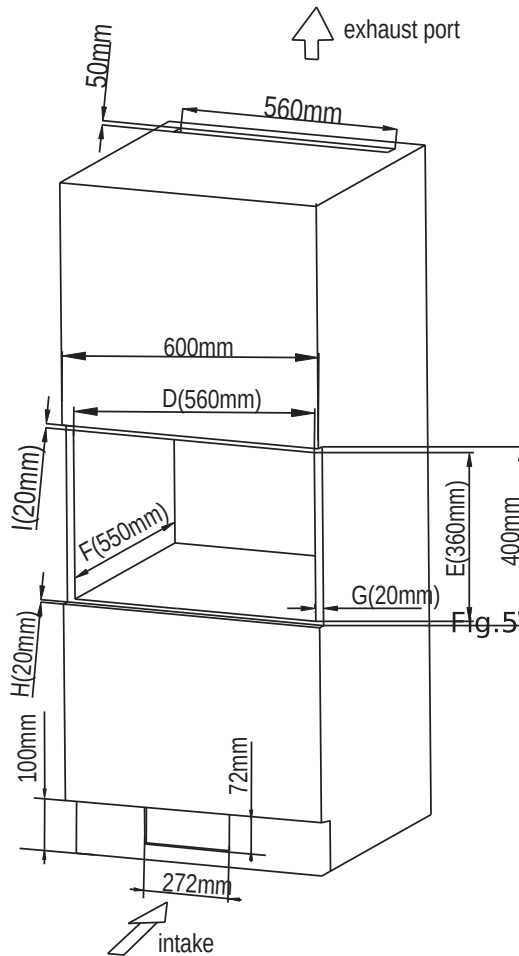

Fig.5
Opening size: (D)560±2 x (E)360±2 x (F)550±2 (mm) as shown in Fig.5 “D”, “E”, “F”.